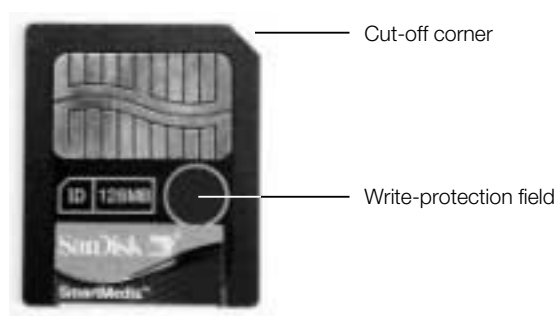

Figure 23: +3.3 V Smart Media Card with 128 MB of memory
Data are backed up on a Smart Media Card (see Figures 23 and 24). This card is a dedicated storage medium, available at capacities of up to 128 MB. The cards come in two types:
- Cards for an operating voltage of +3.3 V, characterized by its right upper corner being cut off (see Figure 23). In addition, this card type is usually labelled with the letters "ID".